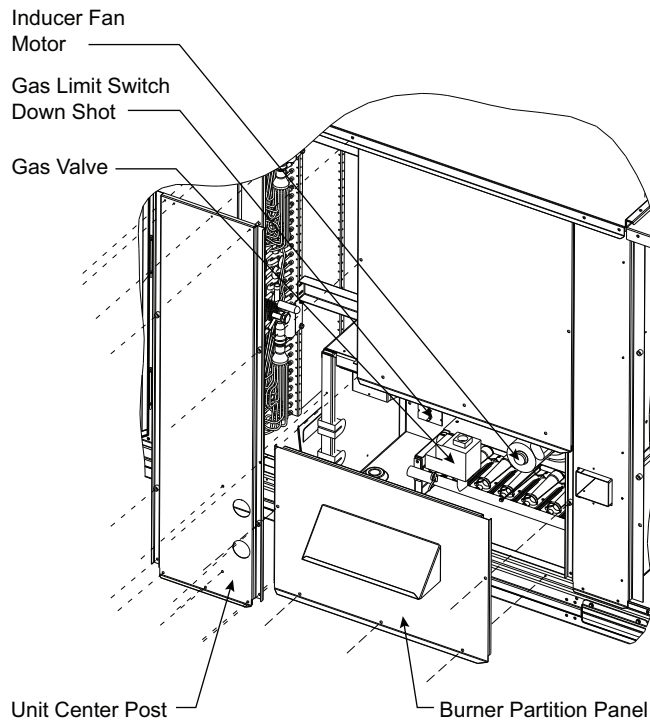

Fig. 55 — Burner Partition Pane and Unit Center Post
5. Remove the screws at the base of the burner partition panel (see Fig. 55) and slide out the panel.
3. Remove the unit center post (see Fig. 55).